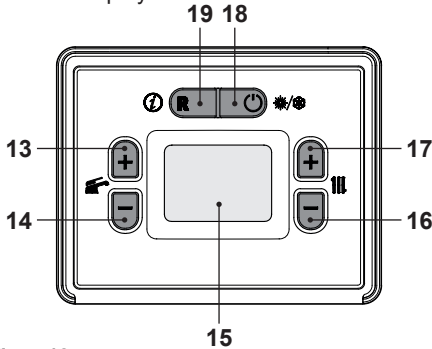

Fig. 7.12
- Press the 18 key until  symbol appear on the display Fig. 7.12.